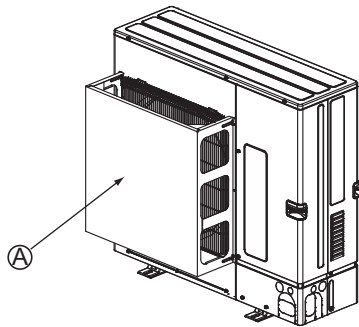
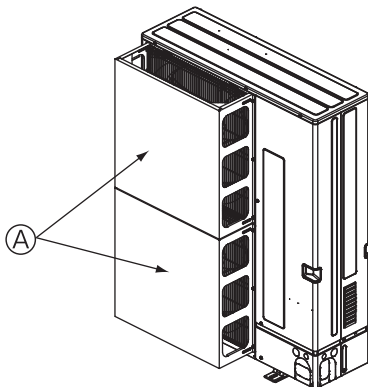

Fig. 12-1-2a
Fig. 12-1-2c
- ① Install an optional air guide if the unit is installed in a location where strong winds from a typhoon, etc. may directly enter the air outlet. (Fig. 12-1-2a, Fig. 12-1-2c)